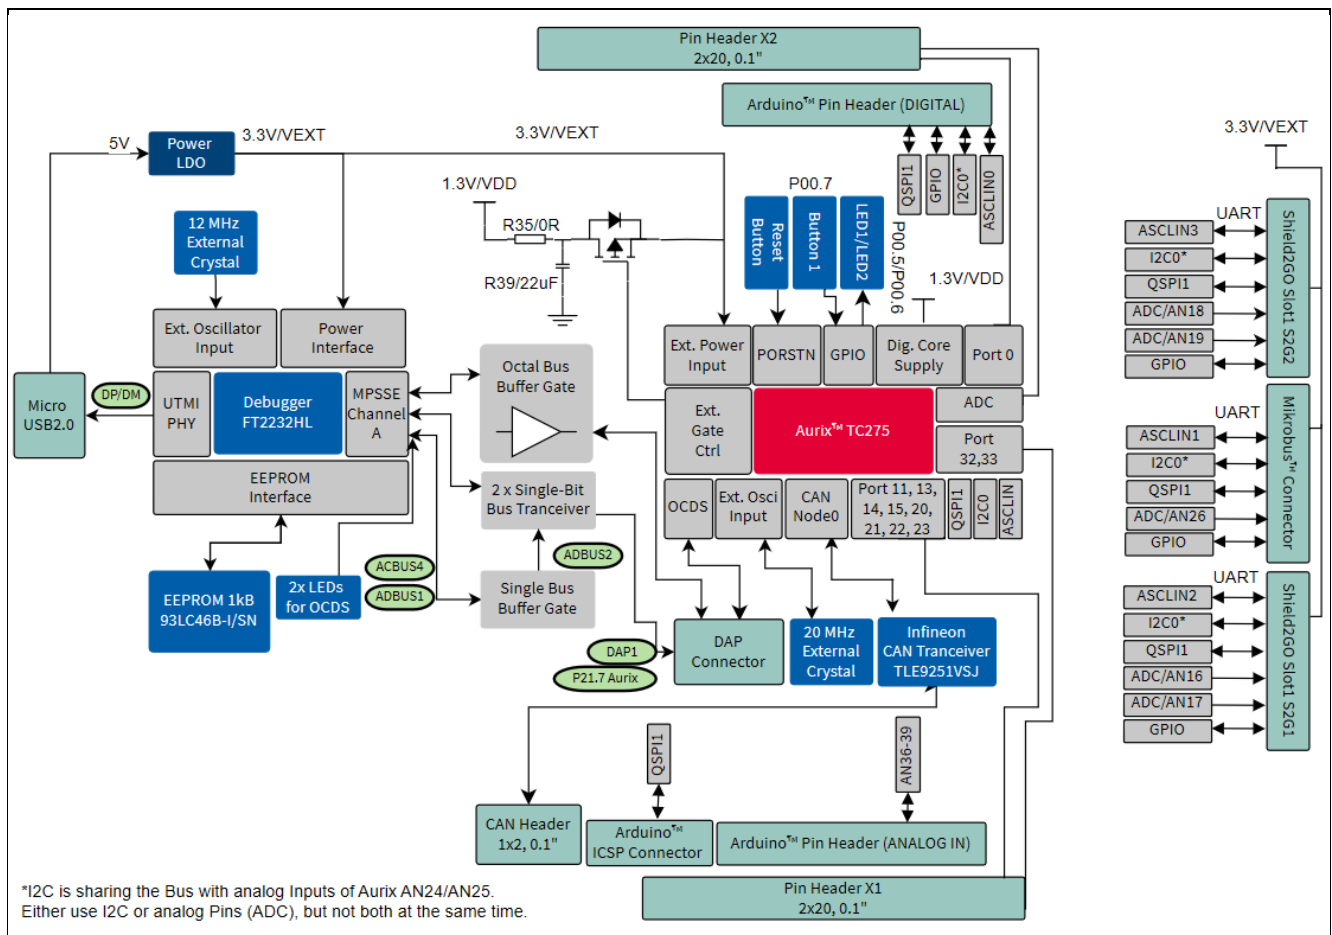

Figure 1 Block Diagram of the AURIX™ TC275 Lite Kit
- The block diagram in Figure 1 shows the main components of the AURIX™ Lite-Kit V1.1 and their interconnections.